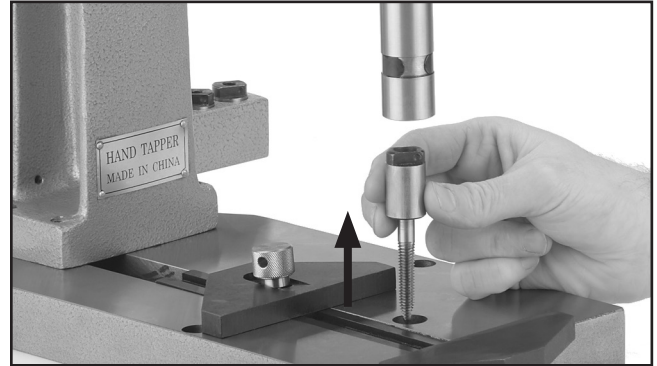

Figure 10. Inserting the adapter into the spindle.
3. Insert the adapter into the spindle (**Figure 10**), then rotate the adapter until it snaps in place.